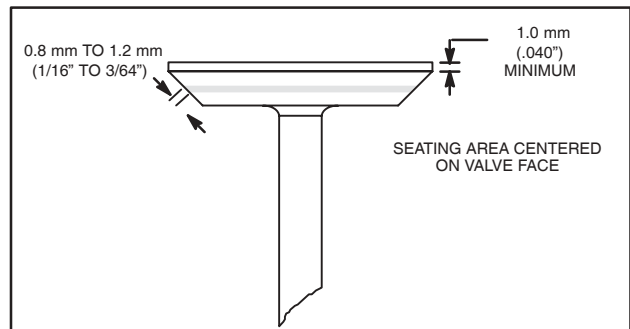
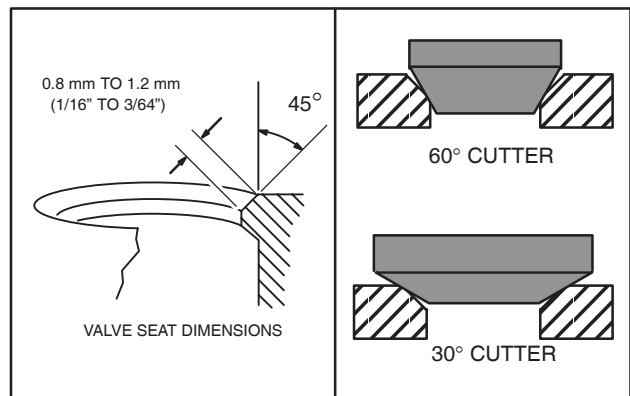

Fig. 20 – Valve Dimensions
Fig. 21 – Valve Seat Dimensions
- Valve faces may be resurfaced to 45°. See Fig. 20 for dimensions for valves. Lap valves and seats with valve lapping Tool, #19258 and valve lapping compound, Tool #94150.
If valve seat is wider than dimension shown in Fig. 21, a narrowing cutter should be used to ensure that contact area of valve seat is centered on face of valve, Fig. 20.
- Use a 60° cutter to narrow seat from bottom and a 30° cutter to narrow seat from top, Fig. 21.